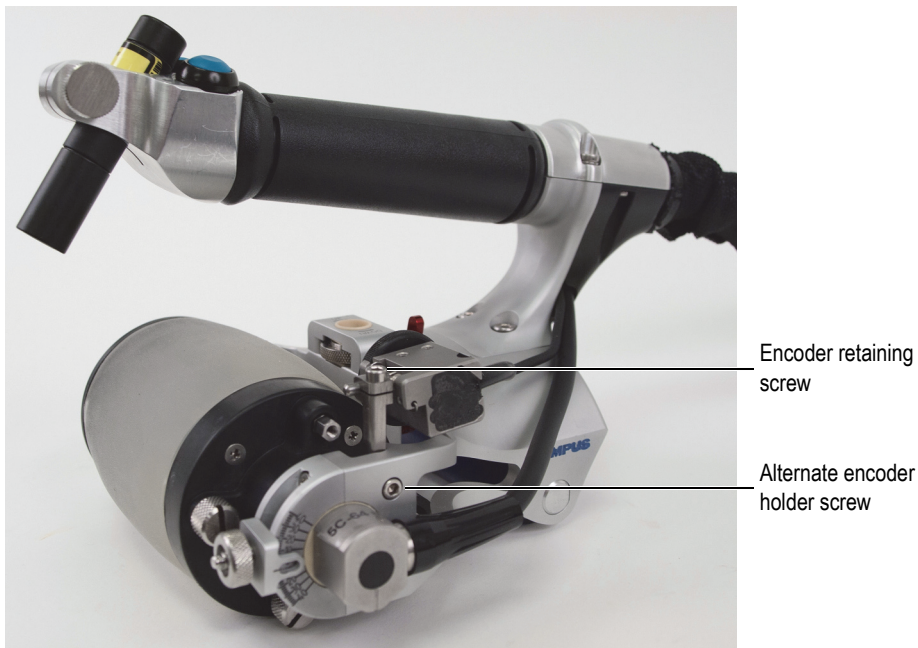

Figure 6-41 Mini-Wheel encoder installed on the alternate encoder holder
11. Install the Mini-Wheel encoder on the encoder holder (Figure 6-41 on page 120).